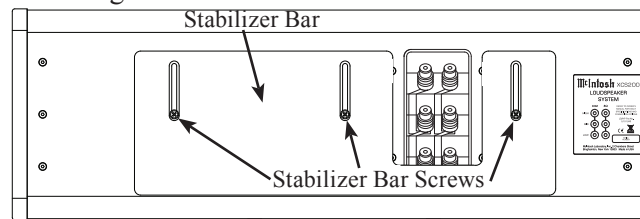

Figure 2
2. Attach the four rubber bumpers to the bottom long edge of the XCS200 Loudspeaker System. Refer to figure 2.
3. Loosen, but do not remove, the three screws securing the Stabilizer Bar to the back of the XCS200. Refer to figure 2.